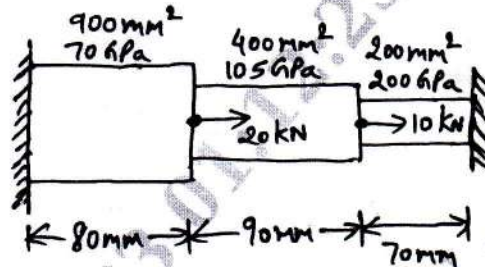

Fig Q5(a)
- 5 a. Find nodal displacements, stress in the thickest section and left support reaction for structure shown in Fig Q5(a)